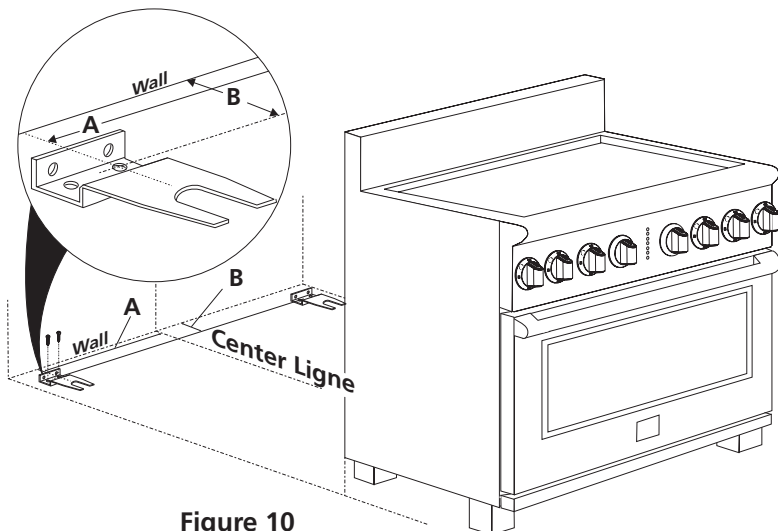

Figure 10
3. Unfold paper template and place it flat on the floor with the back and side edges positioned exactly where the back and sides of range will be located when installed. (Use the diagram in figure 10 to locate bracket if template is not available.)
5. Remove template and place bracket on floor (see figure 10). Line up holes in bracket with marks on floor and attach the bracket using the screws provided. Brackets must be secured to solid floor. If attaching to concrete floor, first drill 3/16" (4.8 mm) dia. pilot holes using a masonry drill bit.